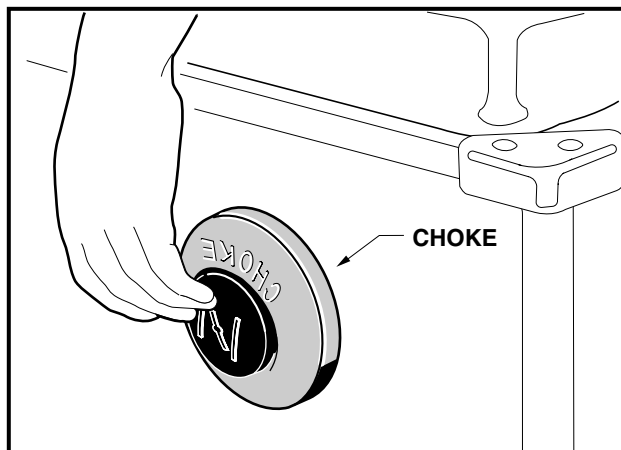

Figure 3-11 Choke Button
- **Turf 1 and Carryall 1:** Push in the choke cover to activate it. Hold it during start up and release the choke cover after the engine starts and runs smoothly (**Figure 3-11, Page 3-7**).